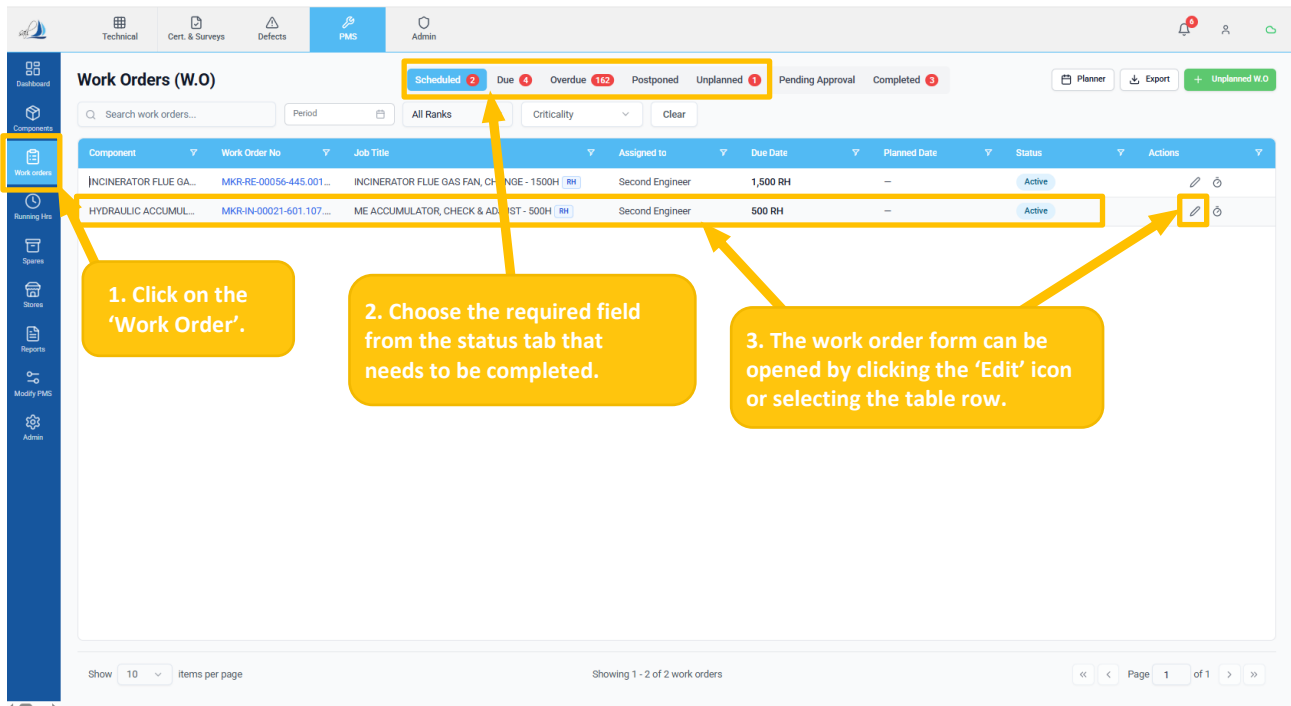

Figure 37
- Go to the 'Work Orders' sub-sub module. (Ref Figure 37)
- Click the required status tab (Scheduled, Due, Overdue, Postponed, or Unplanned). (Ref Figure 37)
- Then select the work order by clicking the 'Edit' icon or the table row. (Ref Figure 37)